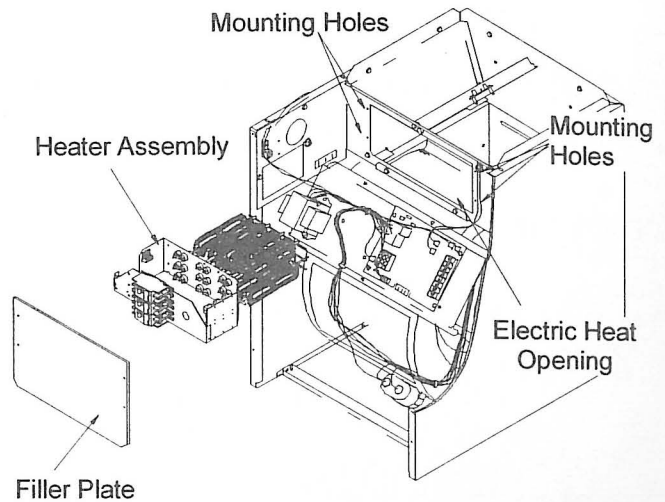

Figure 1
2. Remove the filler plate covering the electric heat opening (if installed). Refer to Figure 1 for location of filler plate and electric heat opening.
4. Secure the assembly to the front support with the four #8 x 3/8" sheet metal screws provided in the heater kit bag assembly (See Figure 1 for hole locations).